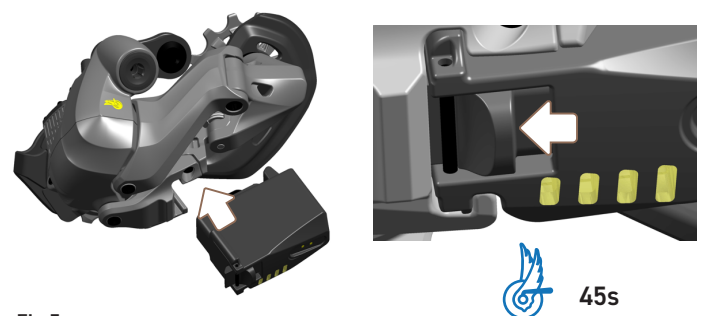

Fig.5
- Insert the battery into the rear derailleur, making it slide from the bottom up, and lock the battery sliding the locking button until it engages with the pivot (Fig. 5). The BLUE LED will switch on fixed for 45 sec in the search status.